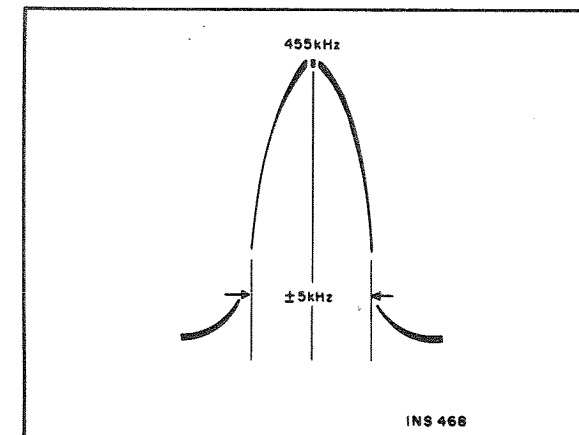

Figure 9.
(2) Connect vertical input of scope to Test Point 302 (pin 3Q on AM/FM IF, MPX board). Connect scope ground to pin 3G. Set scope vertical input sensitivity to approximately 200 mV/cm.
(3) Adjust generator level and sweep to observe IF response curve. Set generator output as low as possible.
(4) Adjust top and bottom cores of Z303, Z301 (on AM/FM IF, MPX board), and Z701 (on AM RF board) for maximum gain and symmetry. Repeat alignment until maximum gain and symmetry are obtained (see Figure 9).